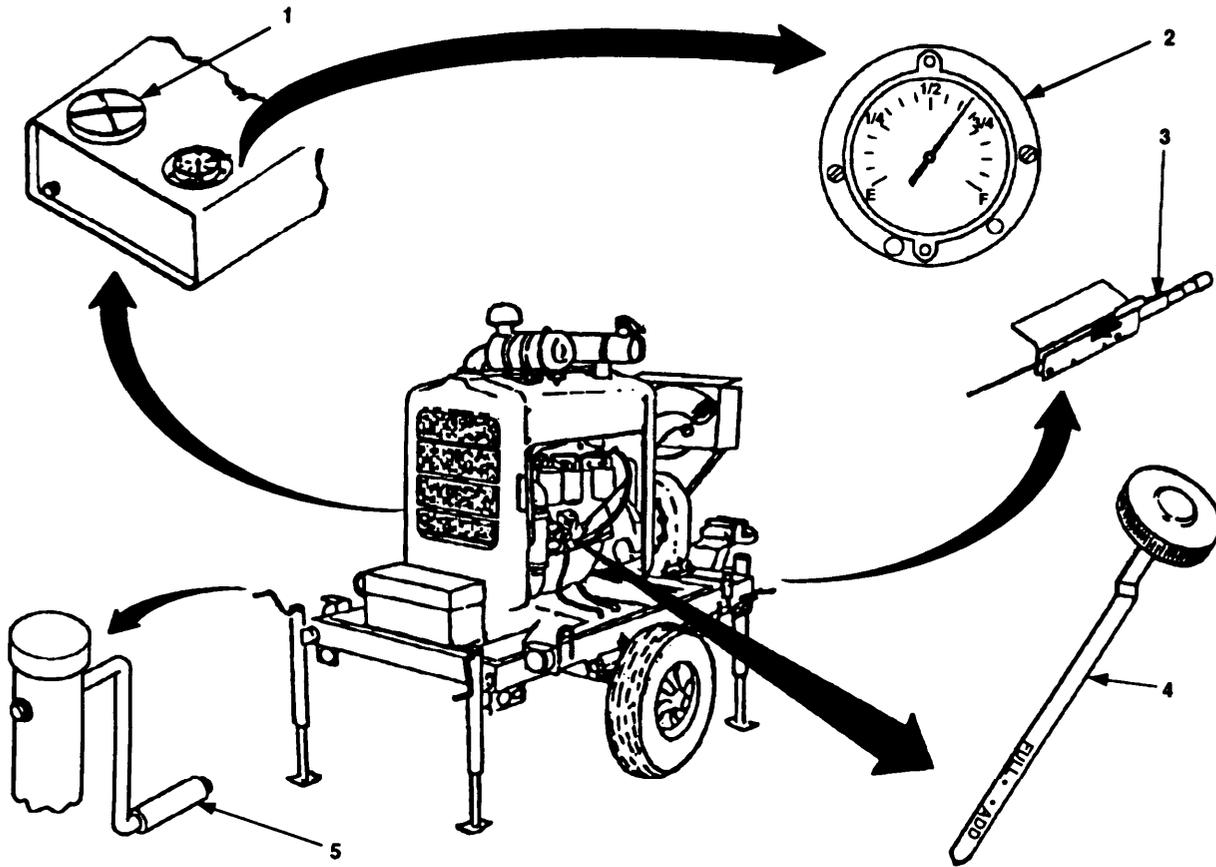

Figure 2-2. Model 609-A Engine and Trailer Controls and Indicators.
2.1.1.2 Engine and Trailer. Refer to Figure 2-2 and Table 2-2.